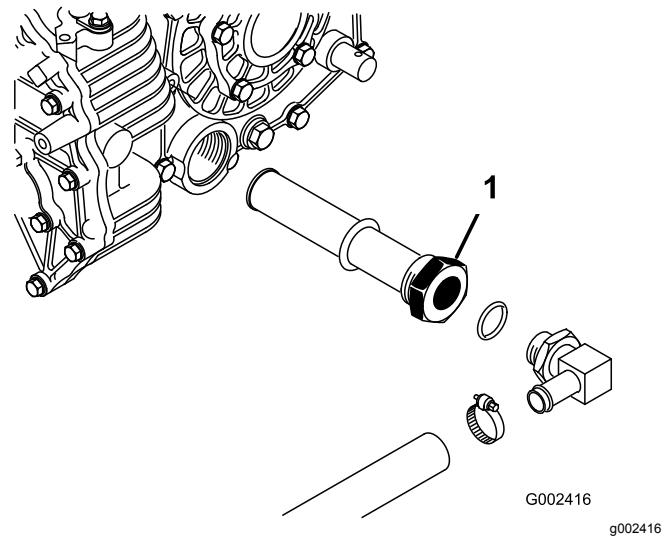

Figure 67
- Note the orientation of the hydraulic hose and 90° fitting connected to the strainer on the side of the reservoir (Figure 67).